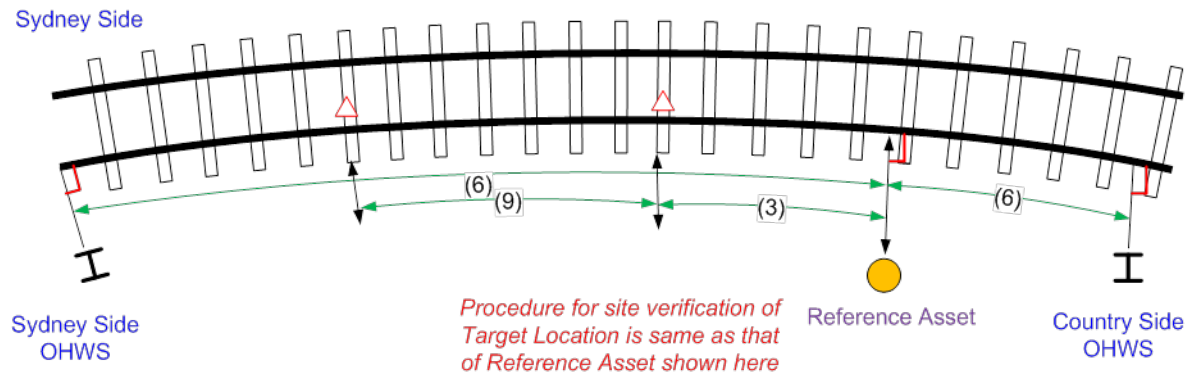

Figure 15 : Measurement Procedure for ATP
The following procedure must be used in conjunction with the SCF provided in the Geographic Data for ATP Guideline Appendix A. Figure 15 Measurement Procedure for ATP of the Geographic Data for ATP Guideline (as shown further below) gives a visual indication of the process. The numbers shown in Figure 15 below refers to the numbered activities mentioned in Figure 3 of the Geographic Data for ATP Guideline.
2. Identify the location perpendicular to the measurement points on the nearest rail of the designated track (the track associated with the Reference) as shown in Figure 15 above of the Geographic Data for ATP Guideline. Mark the position of the rail if required to maintain accuracy of measurement.